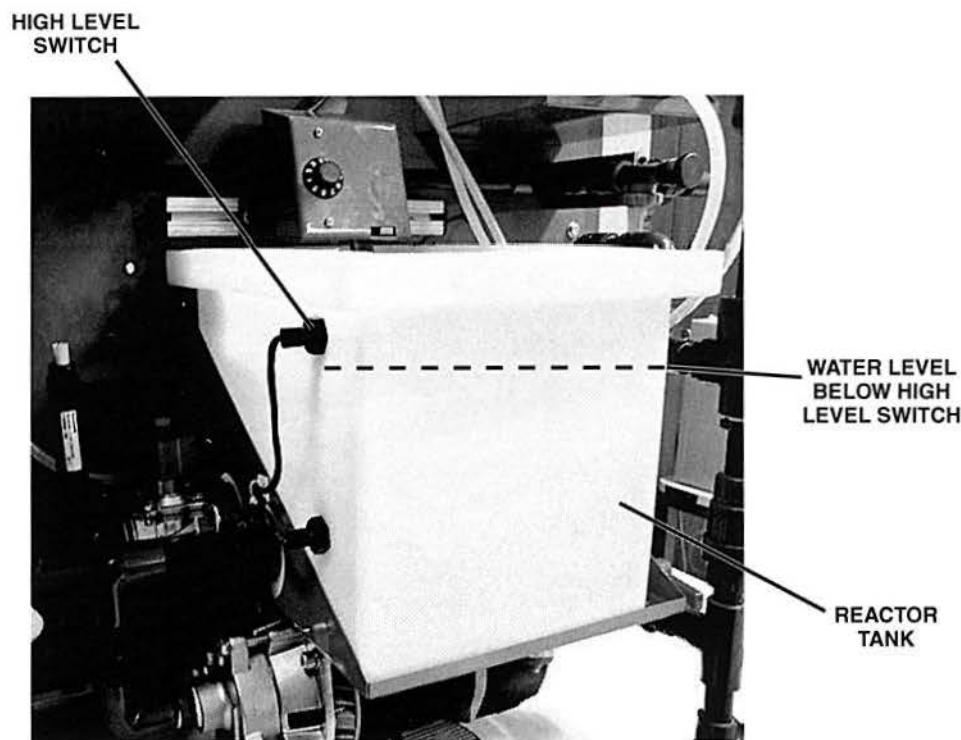

Figure 49. Water Level Just Below the High Level Switch
- H. Fill the reactor tank with fresh tap water until the level is just below the high level switch, as shown in figure 49.